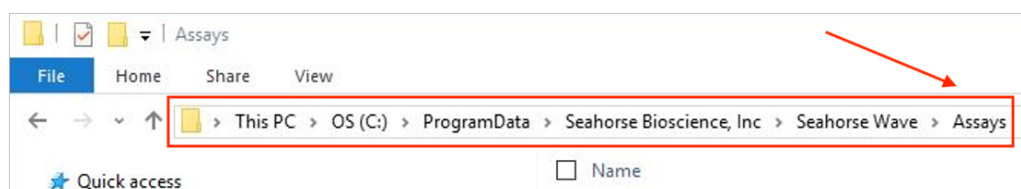

Figure 19. The file location for all assay result files (C:\ProgramData\Seahorse Bioscience, Inc\Seahorse Wave\Assays).
- 5 Go to: C:\ProgramData\Seahorse Bioscience, Inc\Seahorse Wave\Assays and copy all XF assay result files from your external storage device to this location (**Figure 19**).